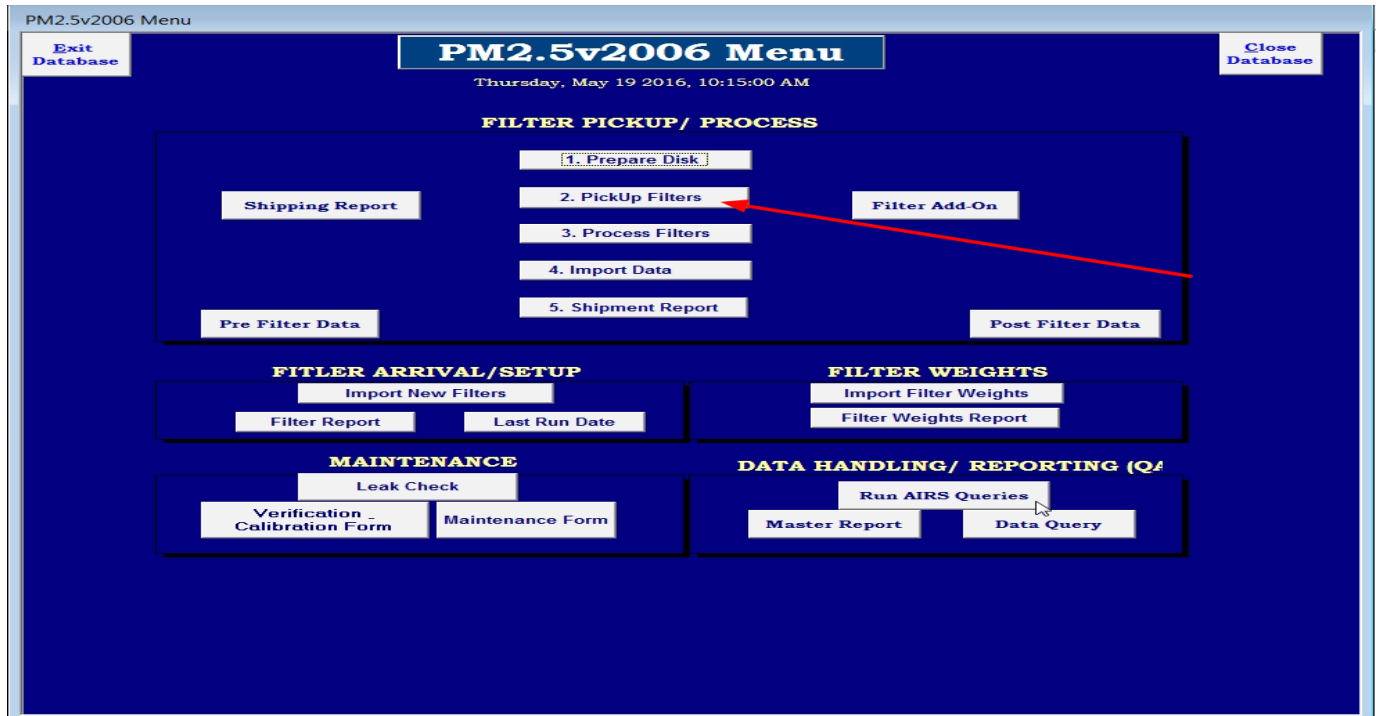

Figure 21: Pickup Filters Button
6.4.3.1.5 On the database screen hit "2. PickUp Filters" (see Figure 21). "Filter Shipment and Pickup" form will open (see Figure 22).